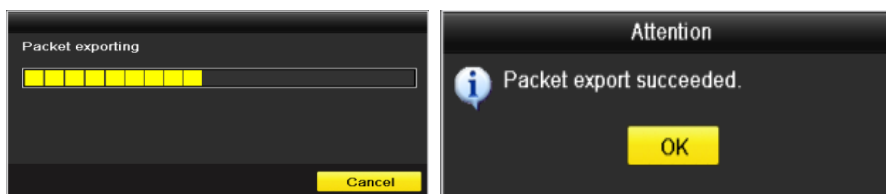

Figure 9.40 Packet Export Attention
5. After the exporting is complete, click **OK** to finish the packet export, as shown in Figure 9.40.